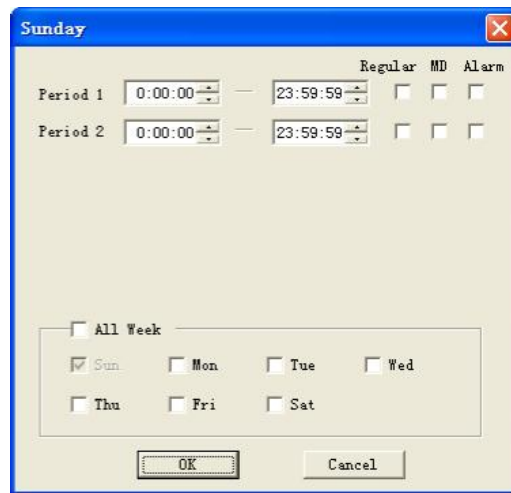

Figure 7-35
- **Time period:** Click set button to display interface as in Figure 7-35. You can check the box to select the file type. System supports multiple choices.